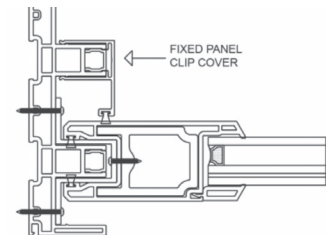

Figure 24c
26. Snap the fixed panel clip cover (Item 16) in to place covering the open frame channel (Figure 24c).